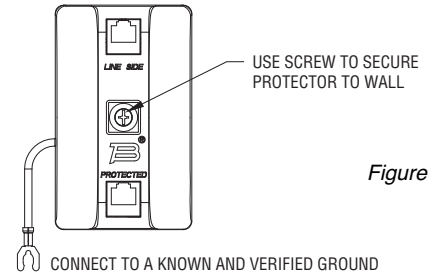

Figure 2
7. Connect the ground wire to a known and verified ground connection (see Figure 2).